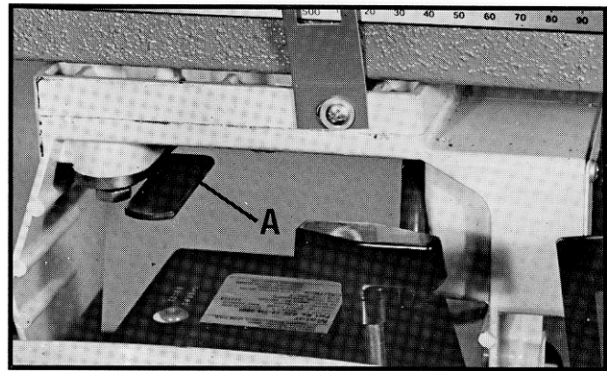

Fig. 56
Yoke index lever (A) Fig. 56, operates a positive stop which positions the cuttinghead in the cross-cut or rip position. To rotate the cuttinghead, release yoke clamp handle, press up or down on yoke index lever (A), releasing the positive stop and rotate the cuttinghead to the in-rip or out-rip or cross-cut position as desired. Release the yoke index lever (A) Fig. 56, and the cuttinghead will automatically index at each of the three positions above.